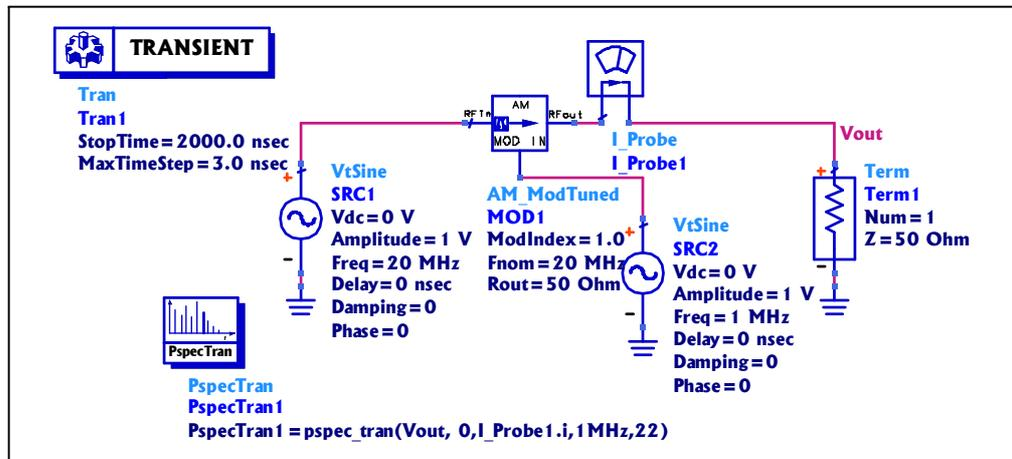

Fig. 8 Simulationg AM signal generated by a function generator
1. Simulate an AM signal, using the component of Fig. 8.